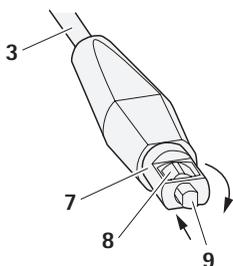

Fig. 11 Inserting the pushing rod
- ▶ Slide pushing rod **9**, with the two flat sides at right angles to the parallel distractor, through nut **8** into sheath **3** as far as it will go, see Fig. 11.